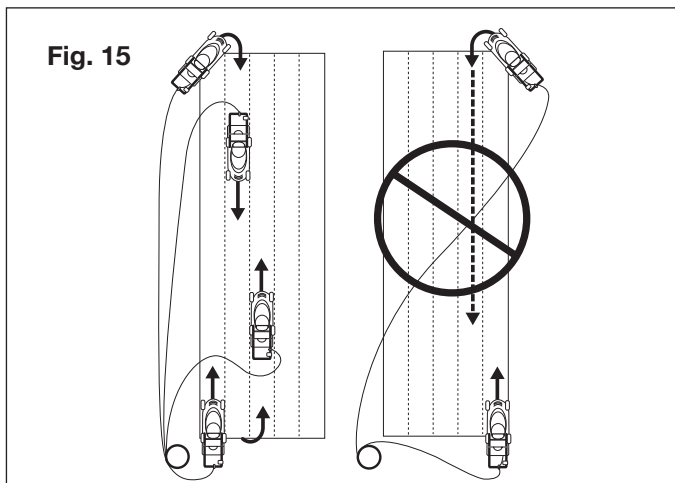

Fig. 15
- Do not mow in a circle. Travel back and forth across the lawn following the path outlined below (Fig. 15).